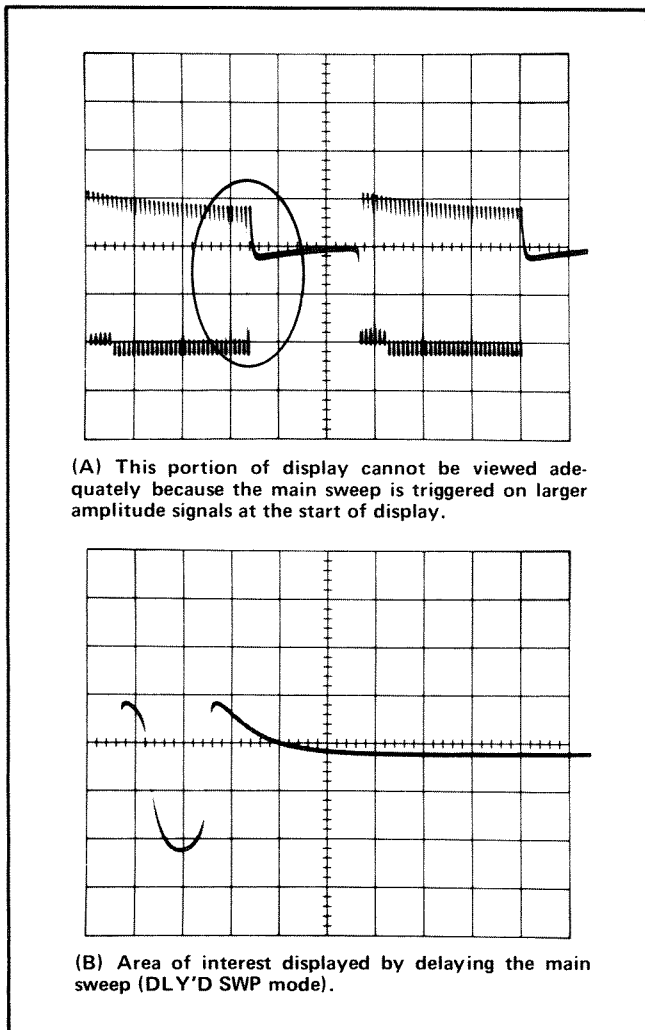

Fig. 2-15. Displaying a complex signal using delayed sweep.
**Example:** Fig. 2-15 shows a complex waveform as displayed on the CRT. The circled portion of the waveform cannot be viewed in any greater detail because the sweep is triggered by the larger amplitude pulses at the start of the display and a faster sweep rate moves this area of the waveform off the viewing area. The second waveform shows the area of interest magnified 10 times using Delayed Sweep. The DELAY TIME MULT dial has been adjusted so the delayed sweep starts just before the area of interest.